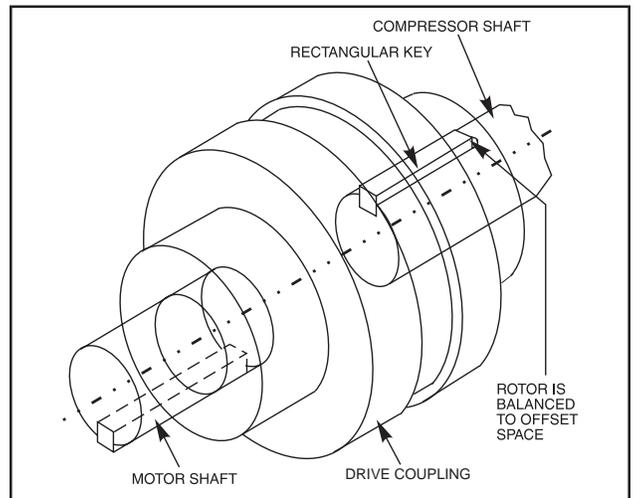

Figure 1
2. Hold the elastomeric gear between the hubs and slide both hubs onto the gear to fully engage the mating teeth. Make sure that the keys on the compressor and motor halves of the coupling are offset 180° (see Figure 1). Center the gear and hub assembly so there is equal engagement on both shafts. Adjust the space between hubs as specified in the CH Coupling Data Table below.